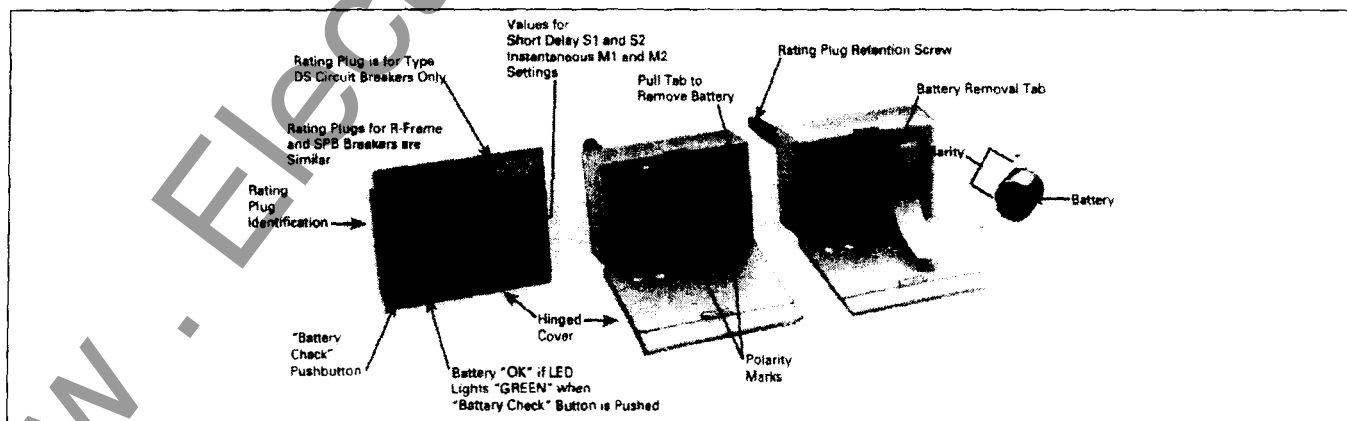
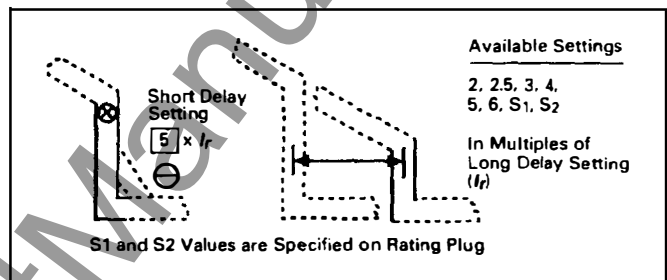

Fig. 4 Rating Plug
Fig. 8.3 Short Delay Current Settings
The **Rating Plug** (see Fig. 4) fits into a special cavity to complete the Trip Unit (see Fig. 1).
Rating plugs have two current ratings listed on their covers (See Fig. 4).
There are eight (8) available Short Delay "Pick-up" Current Settings, as illustrated in Fig. 8.3. Six settings are in the range from 2 to 6 times  $I_r$ , and the other two settings are "S1" or "S2" times  $I_r$ . (REMEMBER:  $I_r$  is the Long Delay Current Setting). The values that "S1" and "S2" have depend upon the type of circuit breaker, and are specified both on the rating plug label (see Fig. 4) and on the applicable (LS) Time-Current Curve referenced in Section 6.
ues that “M1” and “M2” have depend upon the type of circuit breaker, and are specified both on the rating plug label (see Fig. 4), and on the applicable (I) Time-Current Curve referenced in Section 6.